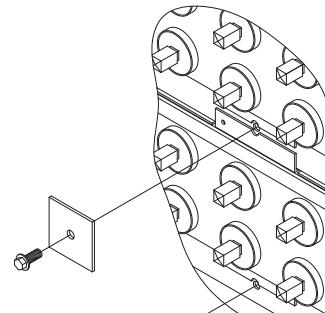

FIGURE 7a
1. For each cell module, install retainer plates, using a M10x1.5 - 25mm Serrated Hex Bolt. See Figure 7. The middle rows use a flat retainer, the top and bottom rows use a retainer with a formed edge. See Figure 7a & 7b.